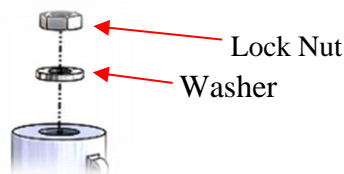

Figure 14: 1" Body Upper Bonnet Components
11. Remove the lock nut and washer. See Figure 14.